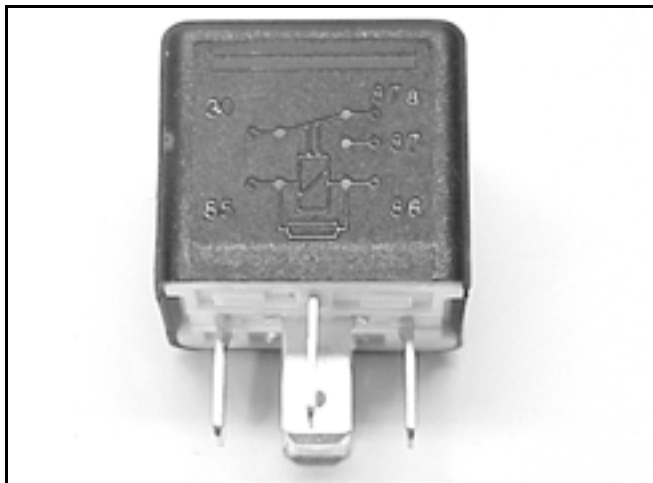

Figure 175
2. Switch: Terminals 30, 87, and 87a are actually part of a single pole, double throw (SPDT) switch. Terminal 30 is the common lead. The switch is spring loaded so that 30 and 87a are connected when the coil is not energized. When the coil is energized, the switch is “thrown” and 30 and 87 are connected (Figure 175).